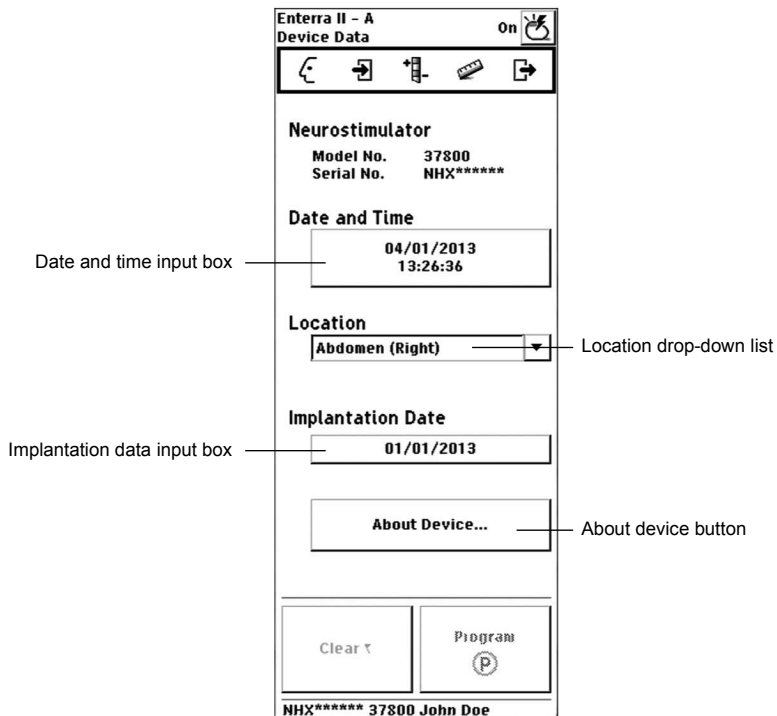

Figure 16. Device data screen.
2. Select the date and time input field to view the current date and time stored in the neurostimulator (Figure 16). To reset the date and time use the **Increase** and **Decrease** buttons or use the **Match N'Vision** button.
3. Select the neurostimulator implant location from the location drop-down list or enter another location (Figure 16).
4. Enter the date the neurostimulator was implanted in the implantation date input box (Figure 16).
5. Hold the programming head steady over the neurostimulator, then press the **Programming (P)** key or select the **Program (P)** button on the programmer screen.